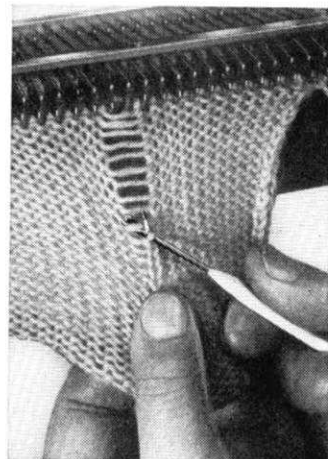

Fig. 24
To pick up **knitted** stitches when the Plain Side of the work faces you, use the Latch Needle Tool from the front of the knitting (see fig. 24).
- Drop stitches 3, 9, 15, 21, etc. in succession, one at a time down six rows and pick them up from the front as described on page 16 and shown in fig. 24.